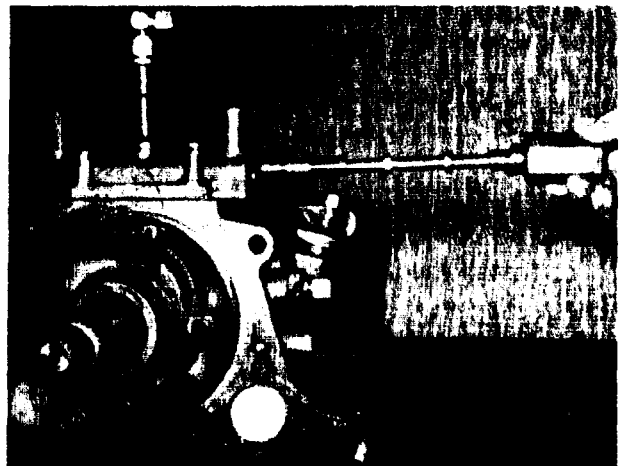

FIGURE 7-48.
d. Unscrew the barrel and remove the spool with the barrel (SW figure 7-48).